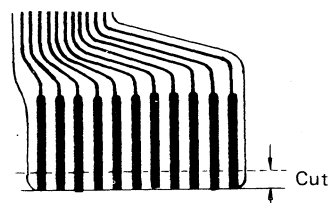

Fig. 2-1-5
Caution : The plug (CN2) of Key board (B) becomes poor contact due to shave out the carbon conductor from plastic face plate, when connection and disconnection are repeated several times. In such a case, cut 2 ~ 3 mm of the edge portion of plug for restoration of the contact. (Fig. 2-1-5)